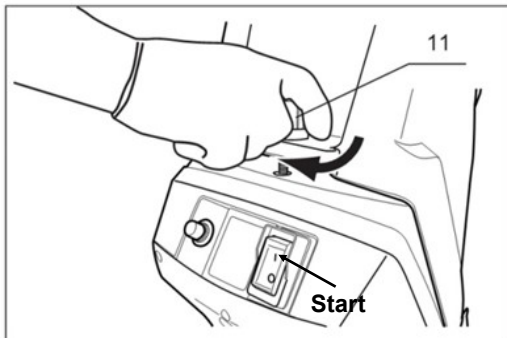

Fig. 4
## STARTING THE SHREDDER: (See Fig. 4)
- Press the I/O switch to "I" to start the motor (Fig.4)